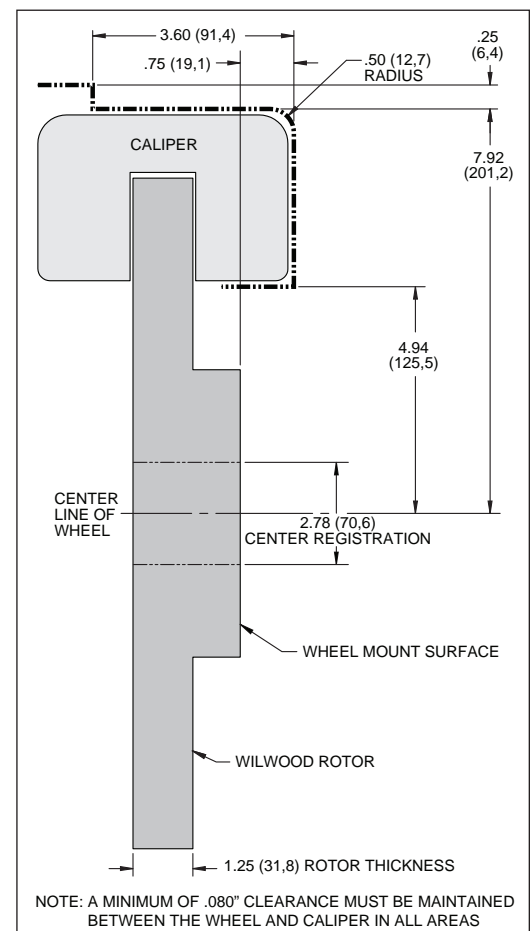

Figure 2. Wheel Clearance Diagram
• Verify your wheel clearance using figure 2.